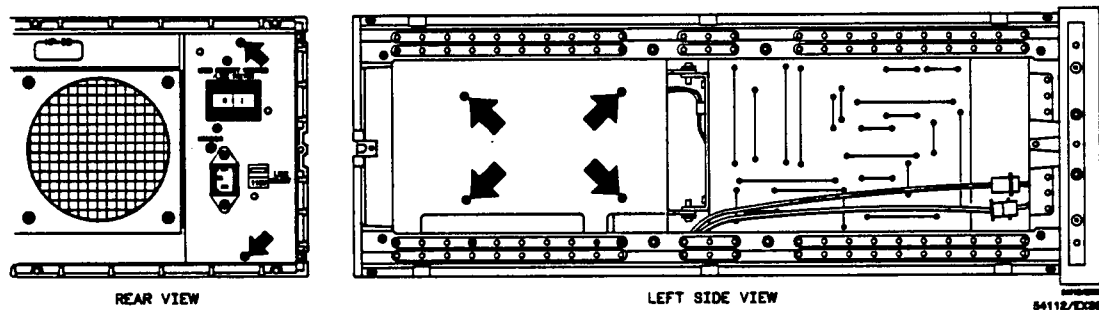

Figure 6A-2. Primary Power Supply Mounting Screws.
7. Remove four screws from power supply side cover (figure 6A-2).
8. Remove two screws which attach power supply assembly to rear panel (figure 6A-2).